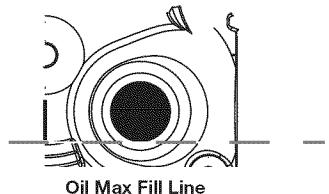

Fig. 19
5. Look into the oil fill hole; use a flashlight if needed. The oil should be just touching the inner most thread (Fig. 19).
6. If the oil level is not touching the inner most thread on the oil fill hole, add a small amount of oil to the oil fill hole and recheck (Fig. 19). Repeat this procedure until the oil level reaches the innermost thread on the oil fill hole.